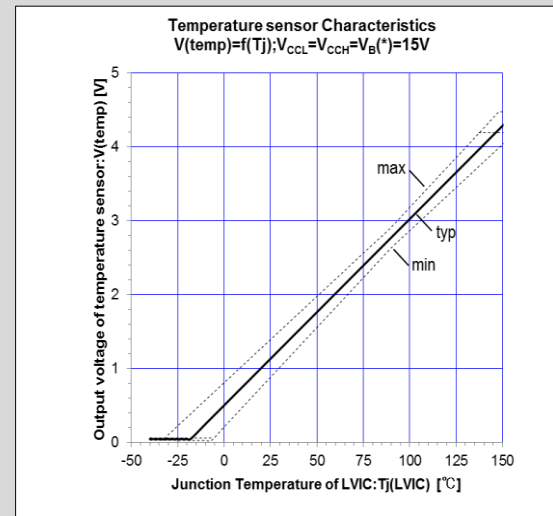

Fig.3-25 LVIC temperature vs. TEMP output voltage characteristics with 22kΩ pull-down resistor
- Fig. 3-25 shows the LVIC temperature versus TEMP output voltage characteristics with 22k Ω pull-down resistor $R_{pull\downarrow}$.